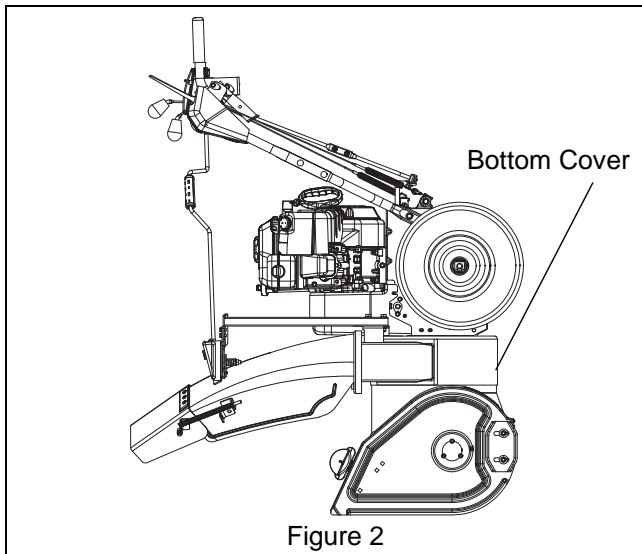

Figure 2
1. Place unit on a flat level surface. Tip unit forward onto front of auger housing into service position. Ensure unit is secure and will not tip over. Strap and clamp onto bench if needed. See Figure 2.
3. Remove six bolts retaining bottom cover and remove cover. See Figure 2.